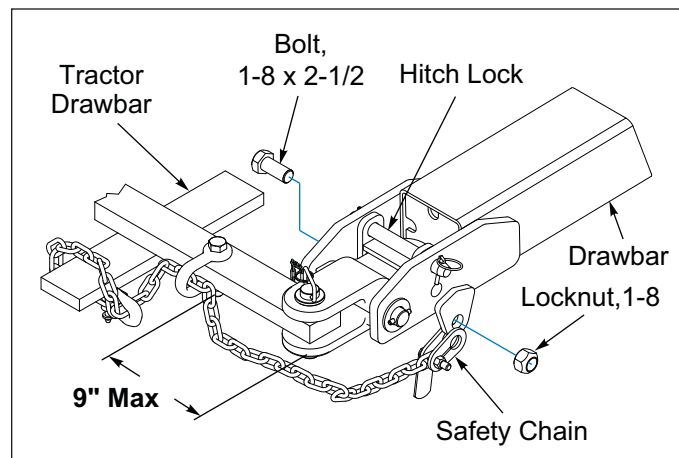

Figure 1-2: Tractor Drawbar without Hammer Strap
3. Attach the chain to the tractor drawbar support or specified anchor location. Never attach the chain to an intermediate support. Allow only enough slack in the chain to permit turning. The distance from hitch pin to attachment point or intermediate support point should not exceed 9 inches. **See Figures 1-2 and 1-3.** If the distance from the drawbar pin to either the front or rear chain attachment point exceeds 9 inches, intermediate chain support is required.